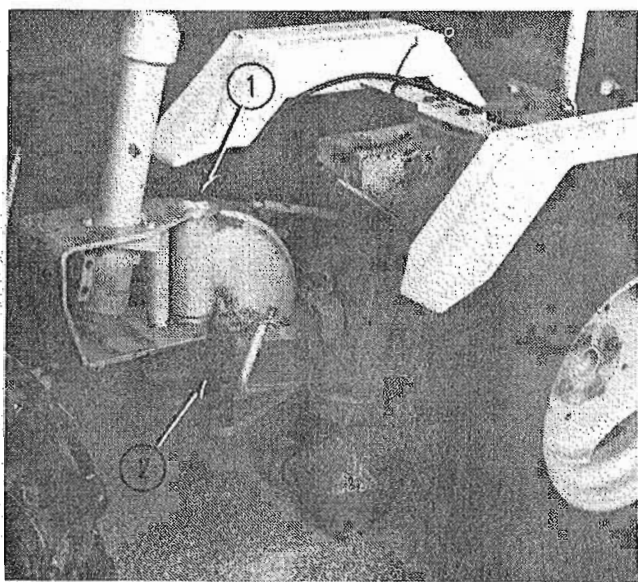

FIG. 1
- (1) The articulating hinge "king pin." (1, Fig. 1)
- (2) The barrel casting upon which the front half of the tractor oscillates. (2, Fig. 1)
- (3) The aft gear case through the front cover.